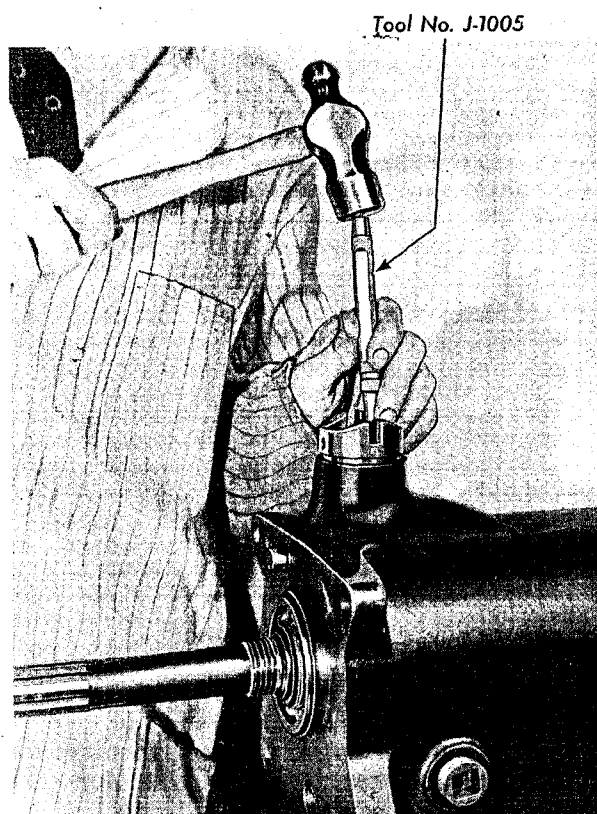

Fig. 27 Installing Pin for High and Intermediate Shaft and Fork
12. Install high and intermediate shifter shaft in case, lining up shifter fork locking pin hole so that pin can be inserted with tool J-1005, as shown in Plate 57, Fig. 27.